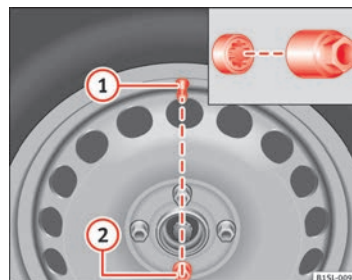

Fig. 142 Changing the wheel: Tyre valve ① and position of anti-theft wheel locking bolt ②
For wheels with full hubcap, the anti-theft wheel lock must be threaded into position ⇒ Fig. 142 Ⓞ before mounting the hubcap. Otherwise it will not be possible to mount the full hubcap.
- Insert the adapter onto the wheel bolt ⇒ Fig. 142. Push it on as far as it will go.